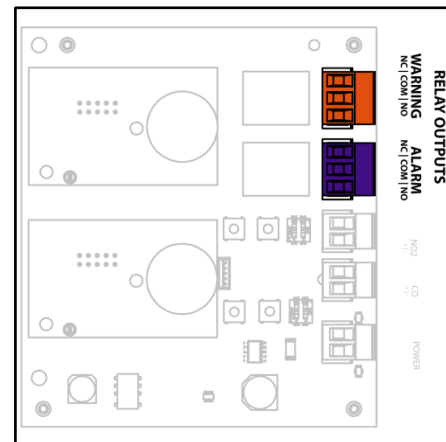

Figure 4: Relay Outputs
The controller has two SPDT dry-contact relay output terminals (shown in Figure 4). The relays are UL rated at 10 Amps at up 277 VAC, and the associated circuitry meets UL criteria for connection to line voltage below 300 volts. Some jurisdictions may require such heavy gauge wires that the full capabilities of the relays are not operationally achievable.
3. Connect the power source voltage for the device being attached to the controller's relay output to either the *NO* or *NC* location of the screw terminal (Figure 4).
4. Wire the power input of the device being attached to the controller's relay output to the *COM* location of screw terminal (Figure 4).